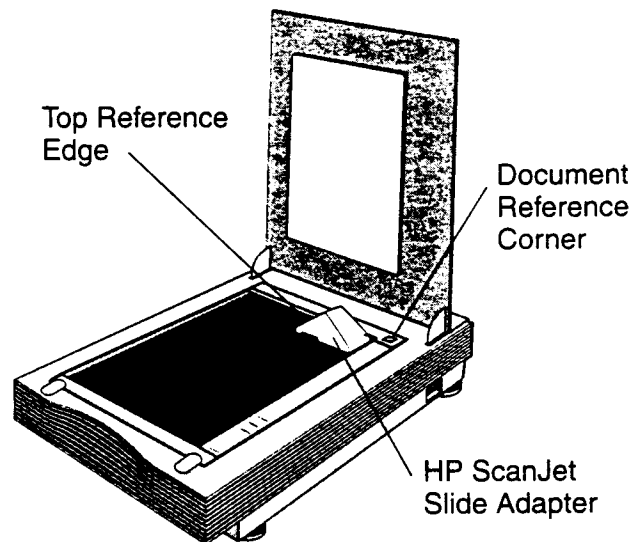

Figure 2 - HP ScanJet Slide Adapter
3. Lower the adapter onto the glass surface, as shown in Figure 2.